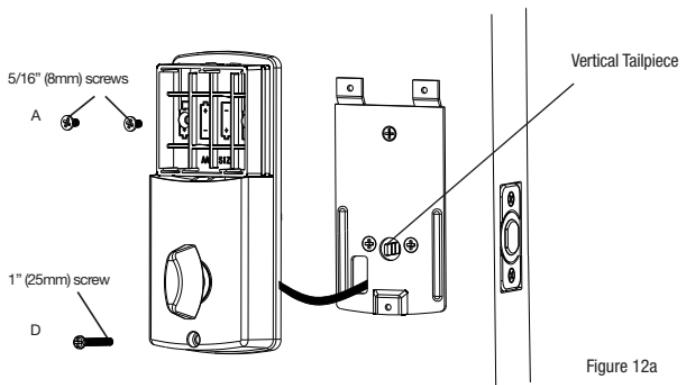

Figure 12a
- Make sure the tailpiece (Figure 12a) is in the vertical position.
- Position the Interior Assembly over the vertically positioned tailpiece and carefully push the Interior Assembly against the door (Figure 12a).
- Using two 5/16" (8mm) screws(A) and one 1" (25mm) screw, attach the Interior Assembly to the Mounting Plate. **DO NOT OVER TIGHTEN SCREWS**